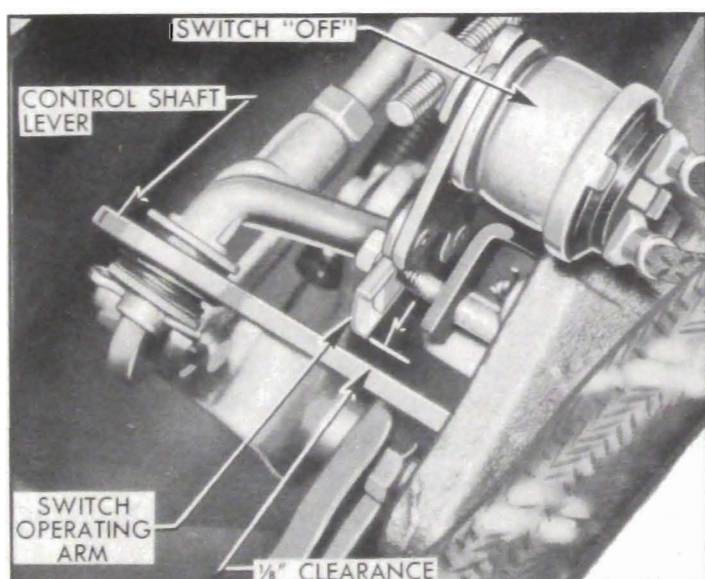

Figure 11-36—Position of Switch Operating Arm in Second Speed
4. Place transmission gear shift lever in second speed position and check clearance between end of switch operating arm and rear edge of control shaft lower lever. The clearance will be approximately $1/8''$ if switch is properly adjusted. See figure 11-36.